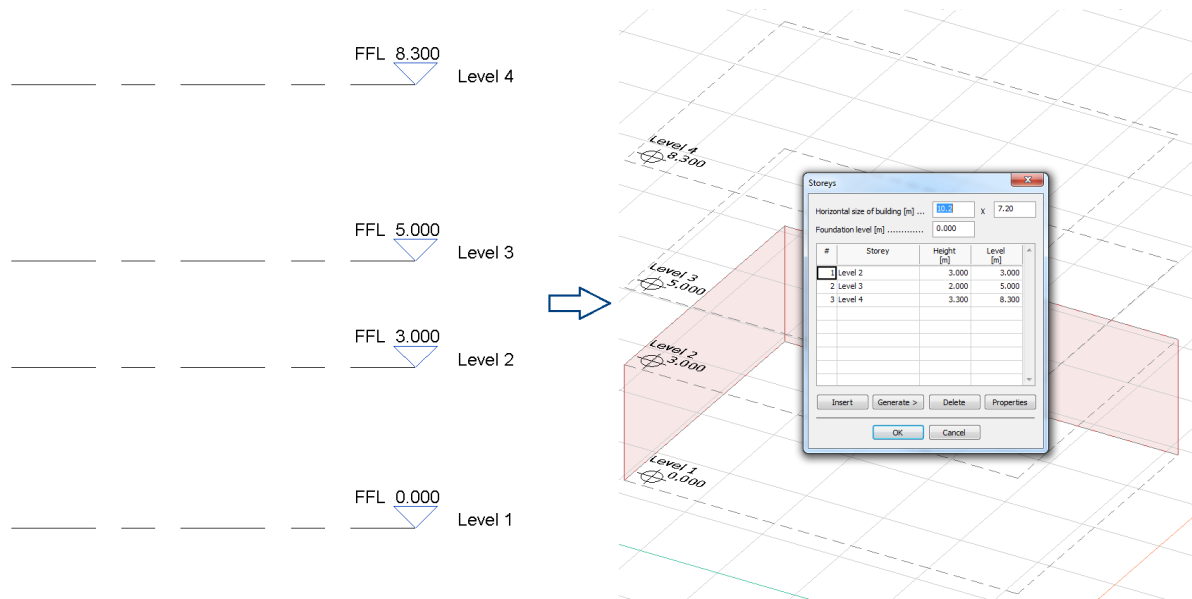

Figure 3-11
- Size of the *Storey* in FEM-Design is calculated based on the placement of most outer elements in the Revit model and included as a *Horizontal size of building* in the *Storey* dialog, as shown in Figure 3-11.